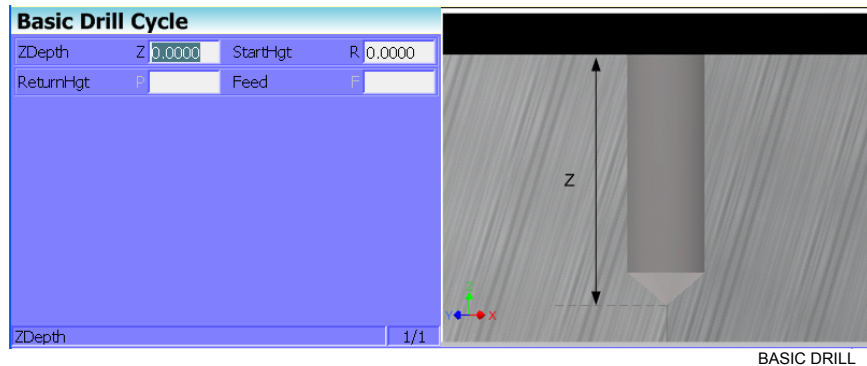

Figure 4-2, Basic Drill Cycle Graphic Menu
2. Highlight **Basic** and press **ENTER** to display the Basic Drill Cycle Graphic Menu. Refer to **Figure 4-2**.